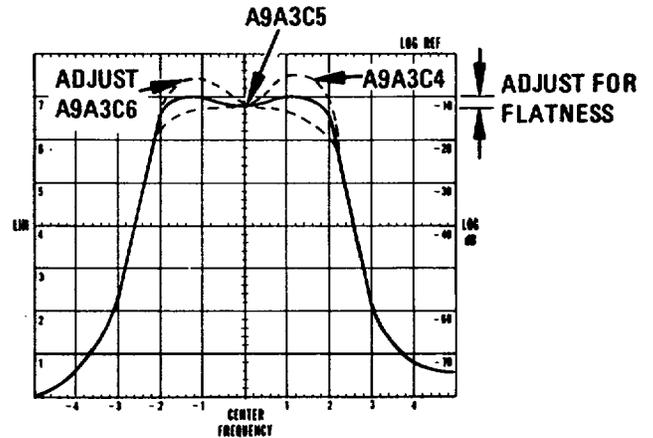

Figure 5-5. 200 MHz Bandpass Shape Adjustment: CRT Display
7. Measure total deviation of the bandpass flatness; flatness should be within +0.4 divisions (vertical) over ±1 divisions (horizontal) referenced from CENTER FREQUENCY. Compare the display with Figure 5-5.
12. Adjust the FILTER adjustments, A9A3C4,5,6 for a bandpass shape as shown in Figure 5-5 while maintaining amplitude at 7 divisions using GAIN adjust A9A1C8. If sufficient amplitude cannot be obtained with A9A1C8, change the value of factory selected resistor, A9A1R7 until proper level is achieved.